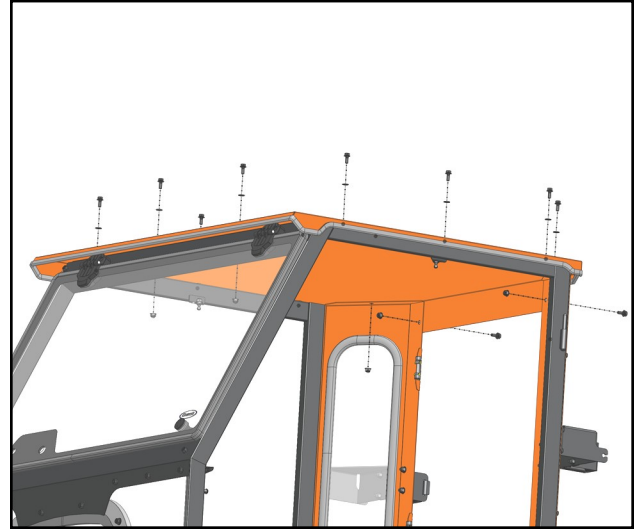

Fig. 8.2 (Roof)
- 8.2** With assistance, set the roof on top of the Side Frames, Windshield Support, and Rear Legs. See Figure 8.2. Loosely secure with sealing washers on the ten (10) screws through the top of the roof, and no sealing washers on the two (2) screws through the back of the Rear Legs.